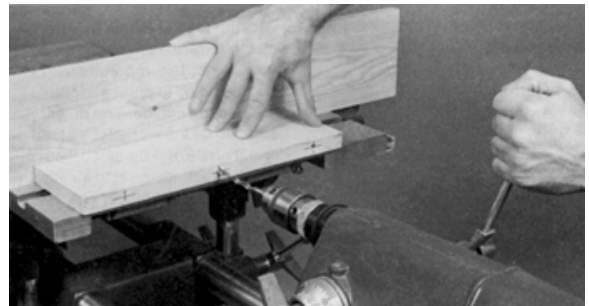

Figure 11-6. Feed the bit into the wood slowly and evenly, maintaining a light, pressure. Sopt when you feel the depth control halt the quill.
- **Doweling** is the most frequently used application for Horizontal Boring. With this operation, the workpiece is laid flat on the worktable surface and the Rip Fence is used as a back-up to prevent the stock from moving while drilling. Mark the locations of your dowel holes on the mating pieces. Set your worktable height so you're drilling at the approximate centerline. **NOTE:** As long as you always keep the top (or bottom) surfaces of ALL boards flat against the tabletop when drilling, it isn't necessary for the holes to be centered perfectly on the edges between the top and bottom surfaces. (Fig.11-6)